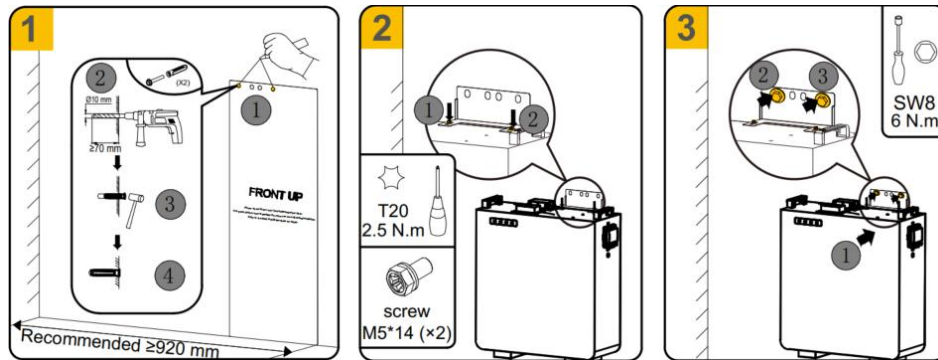

Figure 5-3 Battery Base Installation Steps Diagram
1. Take out the position plate in the battery package, and mark the drilling positions according to the hole of the plate. Then drill 2 holes on the wall with drill $\Phi 10$ and a depth greater than 70 mm, clean the holes and insert screw anchors into the drill holes. Refer to 1 in Figure 5-3.
2. Remove the battery from the carton and place it on the ground. Place the wall bracket onto the battery and align it with the positioning hole on the battery. The distance between battery and wall should range from 30 to 55 mm, which can be adjusted by the wall bracket. Secure the wall bracket on top of the battery (tool: T20 screwdriver, torque: 2.5 N·m). Refer to 2 in Figure 5-3.
Refer to 3 in Figure 5-3..